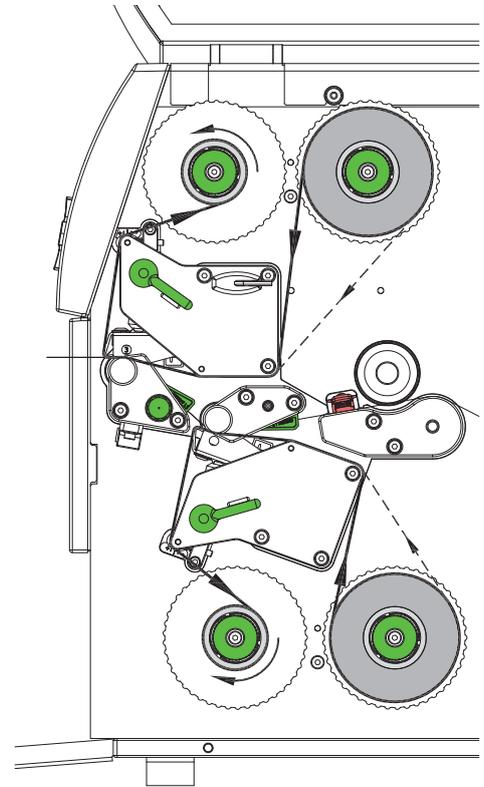

Fig. 13 Transfer ribbon feed path
6. Slide suitable transfer ribbon core (4) onto the transfer ribbon take-up hub (5). Position and secure it in the same way like the supply roll.
7. Guide transfer ribbon through the print unit as shown in Fig. 13.
8. Secure starting end of transfer ribbon to middle of the transfer ribbon core (4) with adhesive tape. When using cores which are wider than the transfer ribbon use the scale (7) at the printhead retainer to adjust the path of the ribbon. Ensure counterclockwise rotation direction of the transfer ribbon take-up hub.
9. Turn transfer ribbon take-up hub (5) counterclockwise to smooth out the feed path of the transfer ribbon.
10. Turn lever (6) clockwise to lock the printhead.
11. Open the flap (9) and load transfer ribbon to the lower print unit (8) in a similar way. All previous statements of direction apply contrariwise excepting the turning of the knobs.